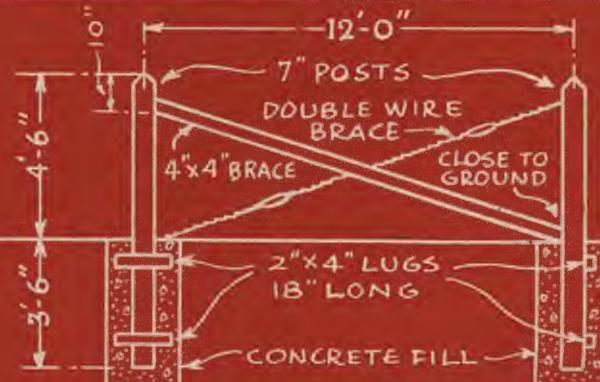

Figure 3
9. Space line posts equally from 12 to 16 feet apart in average field conditions. For barnyards, 10 foot spacing is more practical. In a long fence line, brace a line post every 40 or 50 rods as illustrated in Fig. 3, or set in a tapered concrete block.